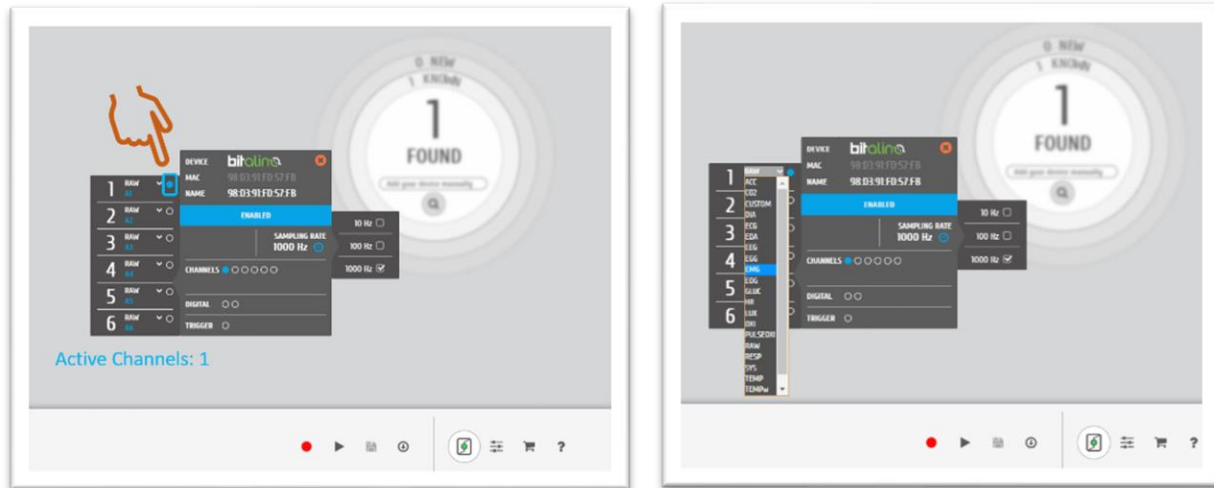

Figure 5: Activation of channels and selecting the signal types: Active channel with a blue dot (left) and the drop-down list to select the signal type (right).
5. Select the analog channel where you want to connect your sensor (Figure 5, left) and select the name, respectively (i.e., Channel A1 and EMG sensor) (Figure 5, right). You also can edit the label A1 by clicking on top of it.